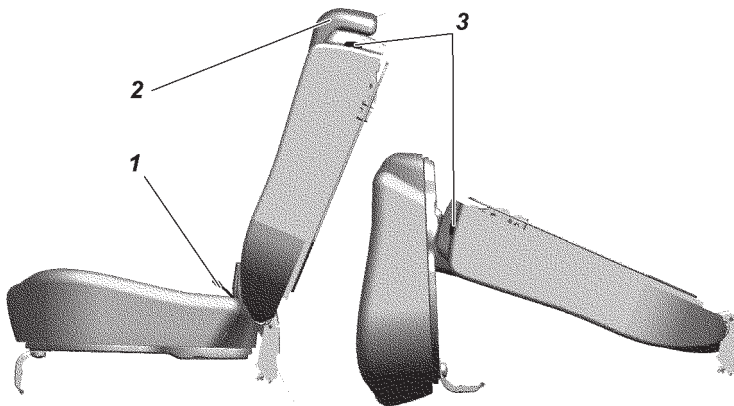

Fig. 3.24. Rear three-seater seat:
Rear triple seat (Fig. 3.24) consists of pillows and backrests for one and two passengers.
- pull the loop 1 (Fig. 3.24) and set the pillow to the upright positions;
- pull lever 3 in the direction of movement of the motor vehicle, release and fold the backrest as shown in the diagram, Fig. 3.24;